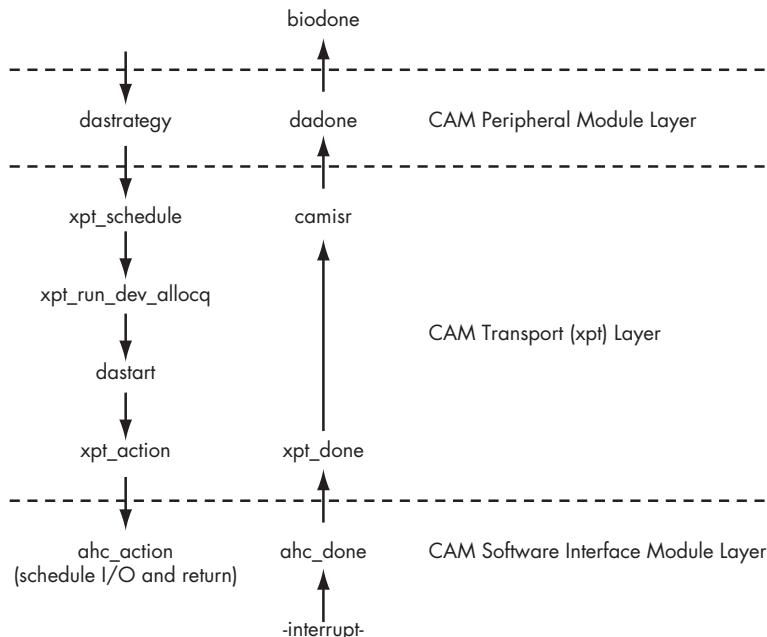

Figure 14-1: The path of an I/O request through the CAM subsystem
In Figure 14-1,1 the kernel passes a block-centric I/O request to the da(4) peripheral module. As you would expect, this causes da(4)’s strategy routine (`dastrategy`) to execute.
1. Figure 14-1 is adapted from *The Design and Implementation of the FreeBSD Operating System* by Marshall Kirk McKusick and George V. Neville-Neil (Addison-Wesley, 2005).